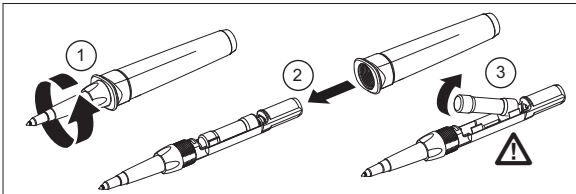

Figure 1. Fuse Replacement
1. Unscrew the probe handle at finger guard, see Figure 1.